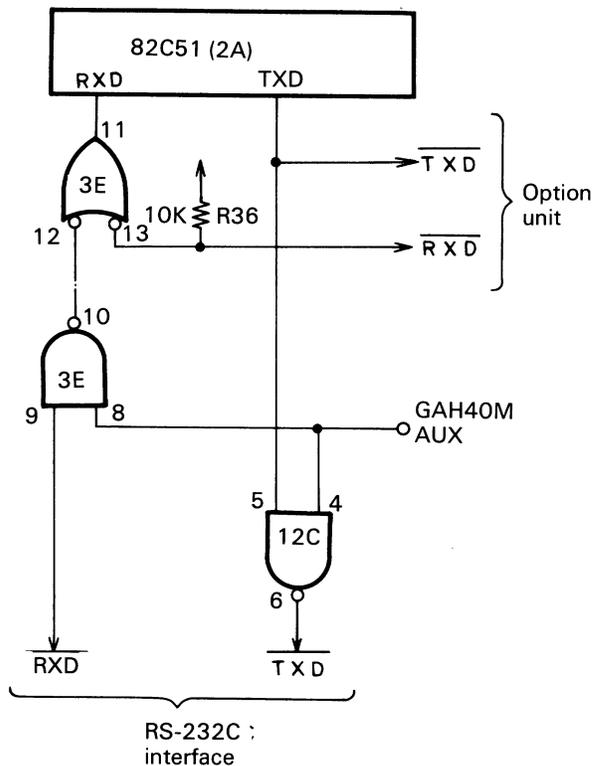

**Fig. 2-110**
- The 10 kohm current limiting resistor inserted on the receive signal line as shown in Fig. 2-110 protects the connected device from excess current or voltage drop. The next voltage limiter circuit, consisting of two diodes, and converts the RS-232C line levels from the mating transmitter to the 0/+5V TTL levels. The 100 kohm resistor pulls the limiter output down to ensure that the inverter IC 9B to functions properly.